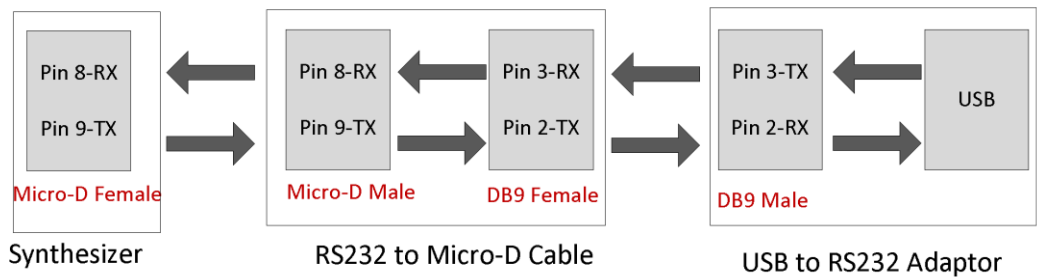

Figure 2. Connecting interface block diagram
- Follow schematic show in Figure 2 to connect the computer and synthesizer so that the communication can be established via Eravant provided GUI program.